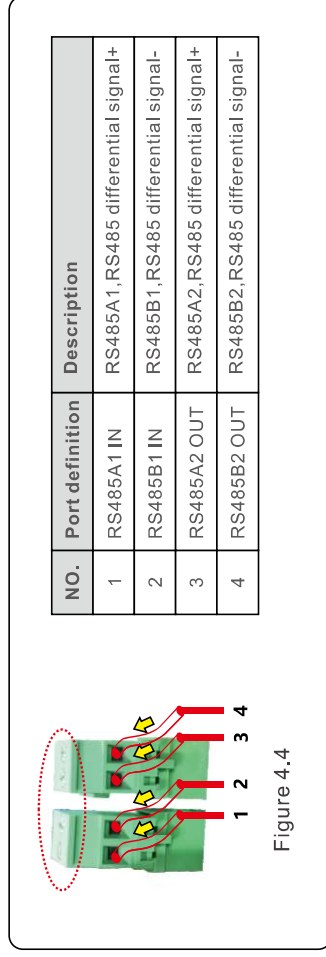

Figure 4.4
- Remove the terminal block on user interface board(See Figure 4.4).
- Insert the cable into the terminal board and tighten the screws in dotted area(See Figure 4.4).